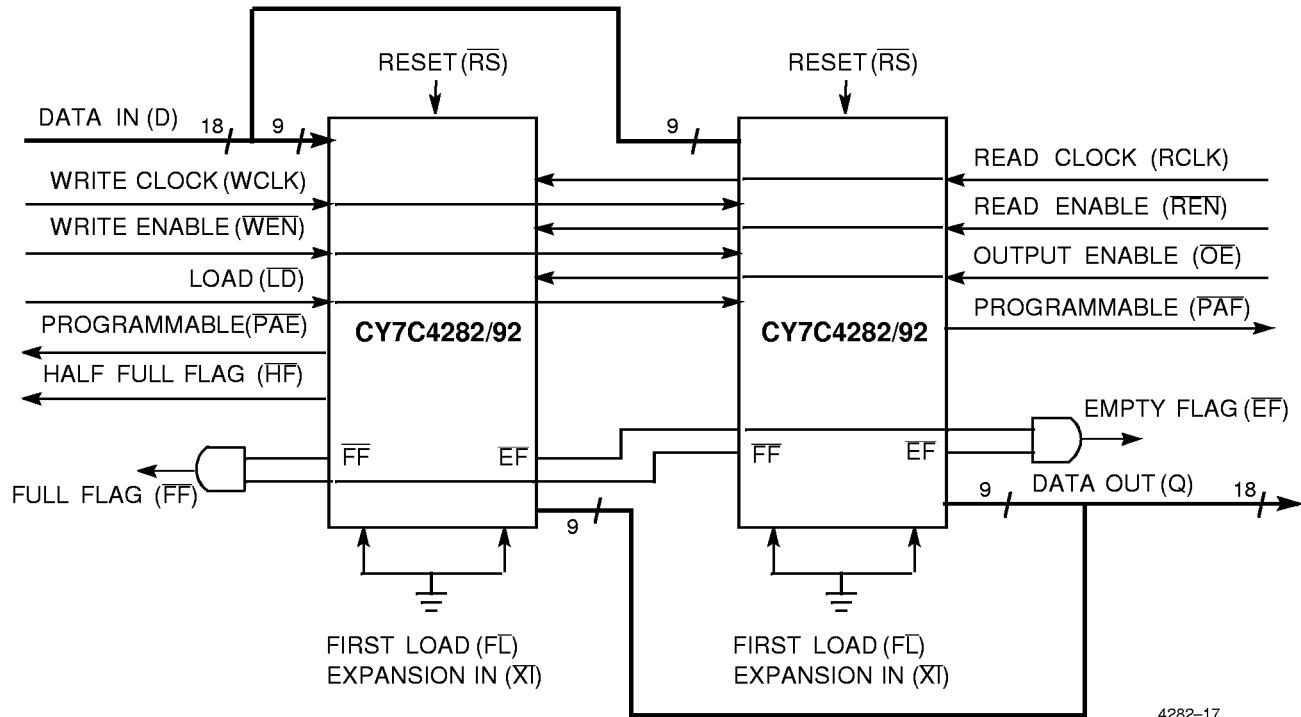

Figure 2. Block Diagram of 64Kx9/128Kx9 Synchronous FIFO Memory Used in a Width Expansion Configuration
Word width may be increased simply by connecting the corresponding input controls signals of multiple devices. A composite flag should be created for each of the end-point status flags (EF and FF). The partial status flags (PAE and PAF) can be detected from any one device. *Figure 2* demonstrates a 18-bit word width by using two CY7C4282/92. Any word width can be attained by adding additional CY7C4282/92.
When the CY7C4282/92 is in a Width Expansion Configuration, the Read Enable (REN) control input can be grounded (See *Figure 2*). In this configuration, the Load (LD) pin is set to LOW at Reset so that the pin operates as a control to load and read the programmable flag offsets.